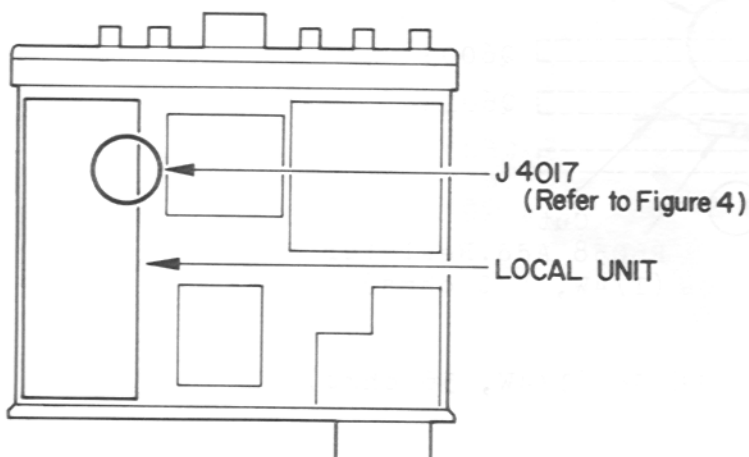

Figure 3
2. Referring to Figures 3 and 4, cut the white wire connected to J4017 on the Local Unit, and wrap the end of the white wire with insulating tape to prevent it from shorting to other parts.